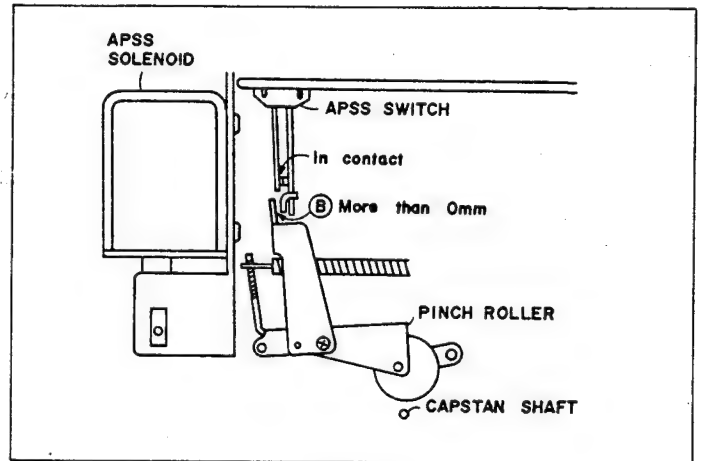

Figure 23
- (1) Set the unit in Fast-forward APSS (or Rewind APSS) mode.
- (2) Adjust the setting position of the APSS switch (SW301) so that the interval (B) of Figure 23 will be as specified.